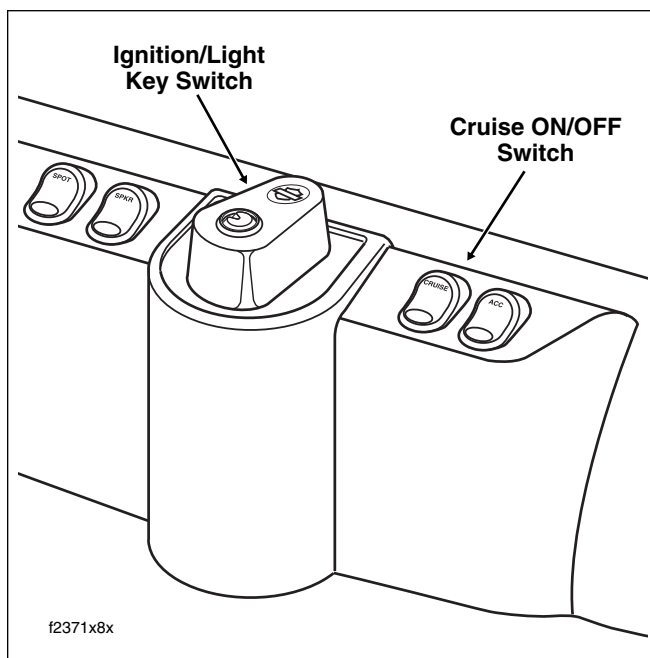
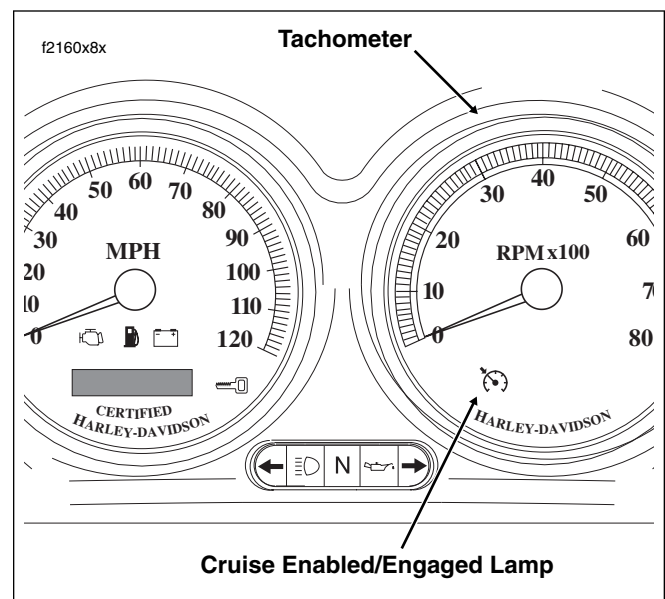

Figure 8-128. Fairing Cap (FLHTCU)
Figure 8-130. Instrument Panel (FLHTCU)
1. While riding in fourth or fifth gear, turn the Cruise ON/OFF Switch to the ON position. See Figure 8-128. The switch is located on the fairing cap of FLHTCU models, the instrument nacelle of FLTR models, and the left handlebar lower switch housing on FLHRC models. The Cruise Enabled/Engaged lamp in the tachometer face (speedometer on FLHRC models) turns red to indicate that the system is activated. See Figure 8-130. A red lamp in the switch on both FLHTCU and FLTR models also indicates this condition to the rider.
Enabled/Engaged lamp in the tachometer face (speedometer on FLHRC models) turns from red to green to indicate that cruising speed is locked in. See Figure 8-130.